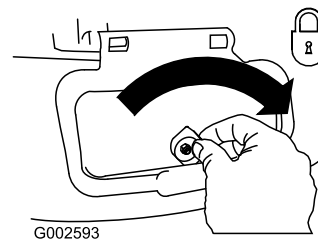

**Figure 35**
3. Install the side discharge chute and close the door onto the chute (Figure 35).